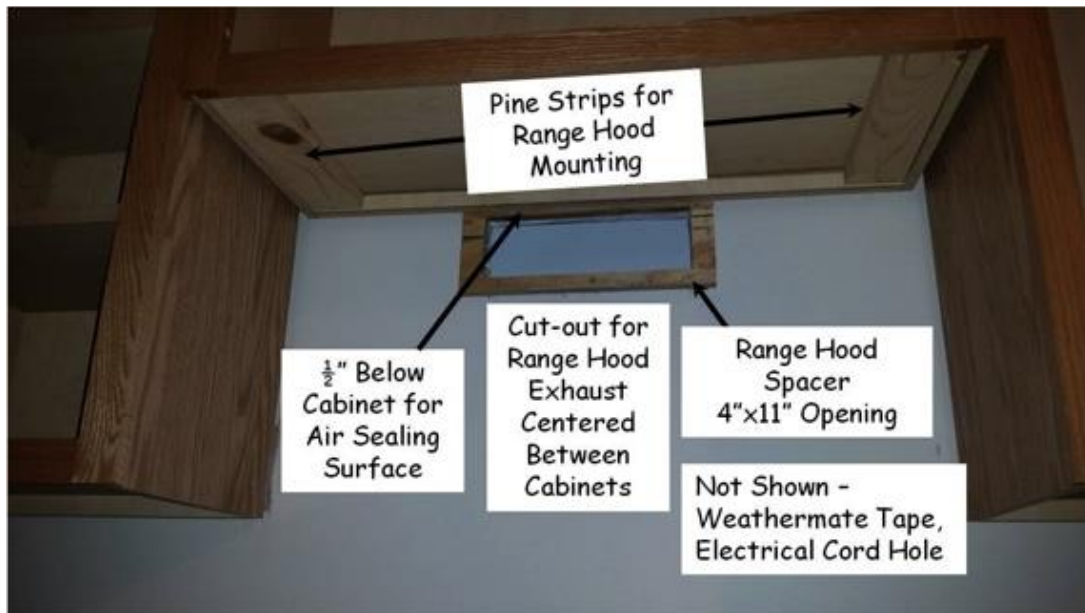

Figure 17-2. Range Hood Mounting Frame.
7. Use an oscillating saw to cut out the sheetrock on the lines from above and remove. Be sure the top edge of the cutout is at least ½" below the bottom of the cabinet to provide for an air sealing surface (see Figure 17-2).